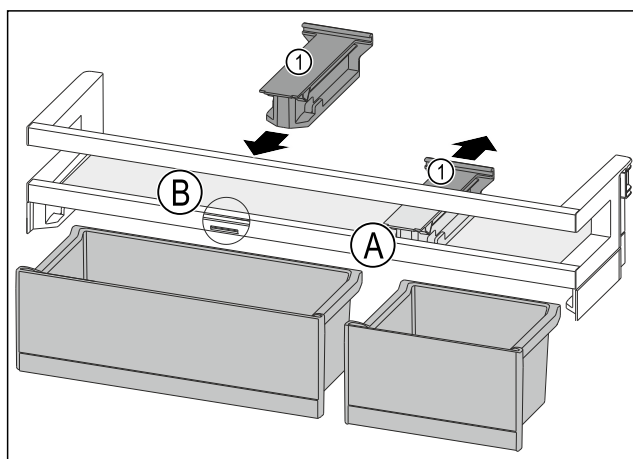

Fig. 81
- ▶ Take off the holding part Fig. 81 (1) in position Fig. 81 (A) backwards.
- ▶ Insert the holding part Fig. 81 (1) in position Fig. 81 (B).